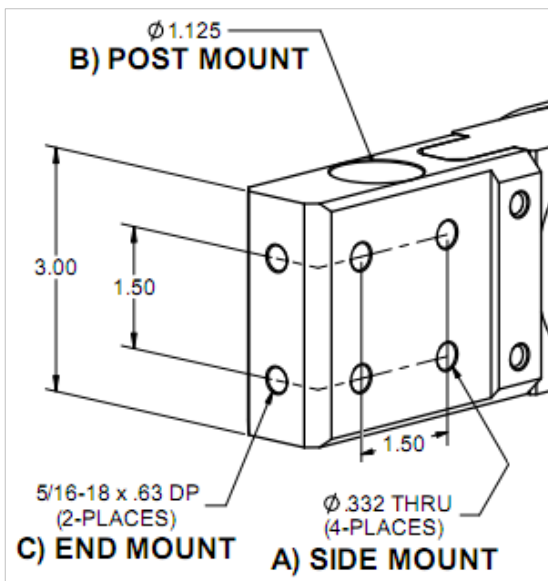

Figure 5 Mounting interface block borings
8. Inspect the mounting system to determine how the mounting interface block will be attached. There are three types of mounting interface blocks. As shown in Figure 5, each is bored for: